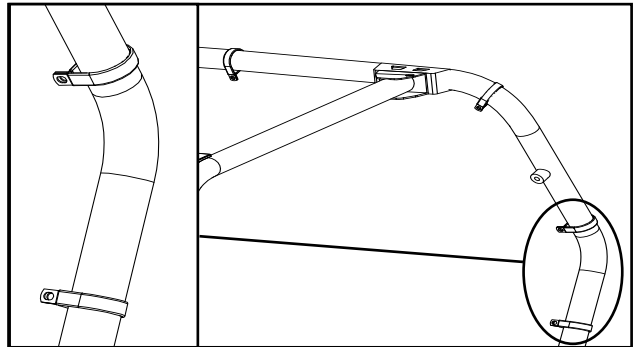

Fig. 1.1 (P-Clamp Orientation)
1.1 Per figure 1.1, position the (7) supplied rubber coated P-clamps around the rear portion of the ROPS.